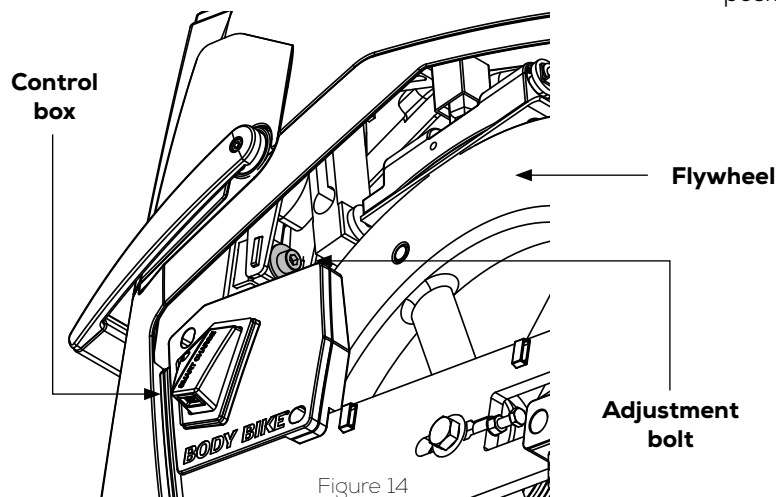

Figure 14
- 2) Locate the adjustment bolt, just above the control box. See figure 14.